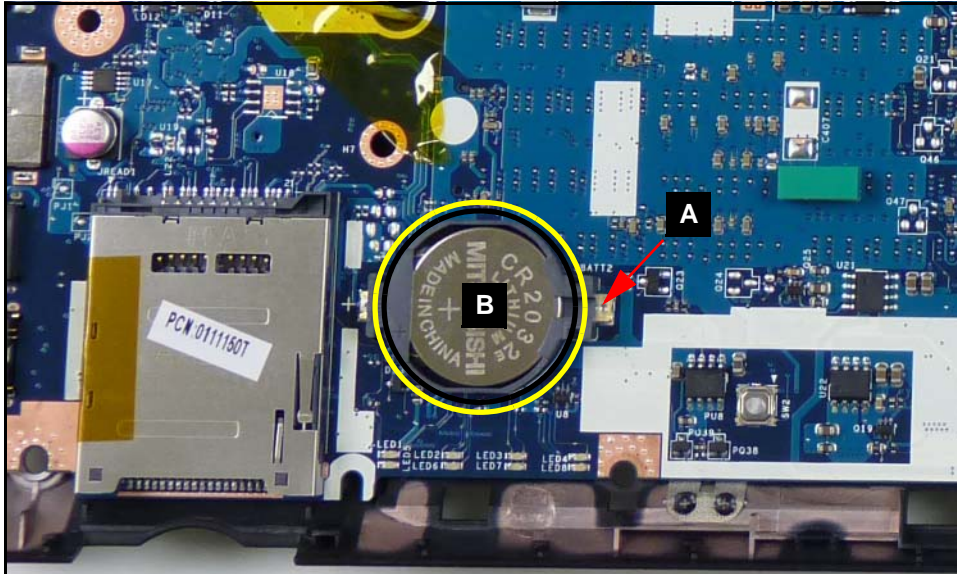

Figure 3-30. RTC Battery Removal
2. Remove battery (B) from mainboard connector (A) (Figure 3-30).
Follow local regulations for battery (Figure 3-30) disposal.
1. Install battery (B) to mainboard connector (Figure 3-30).